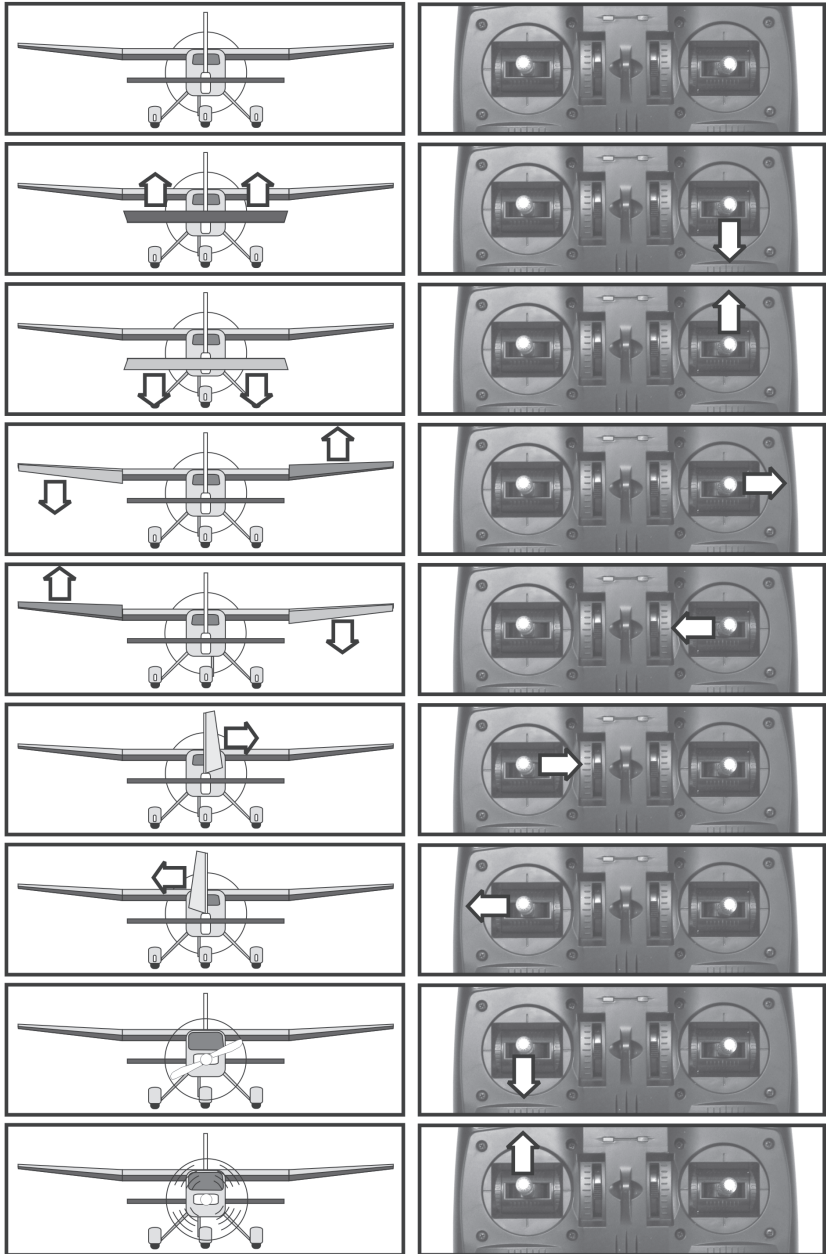

Figure 10
At the correct connection, the servos at outputs 1, 2, 3 and 4 should react in the right direction to the movements of the control levers according to the illustrations in figure 10 (see next page).
The linkage rods of the rudders must be adjusted so that the rudders are all aligned precisely centrally if the control lever and the respective trim sliders are in the central position (also see top sketch in figure 10).
If the rudder movements are not according to figure 10, you are able to switch the running direction of every single servo with the reverse switches (also see figure 1, item 10).
This setting is used for flight models that have a rudder and elevator (see sketches in figure 10).